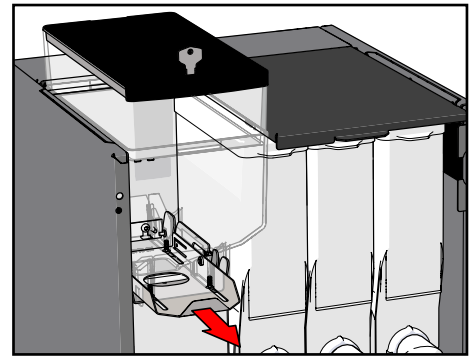

Figure 62.
2. Pull the canister slide towards you (see Figure 62). This will release the canister and close it at the bottom.